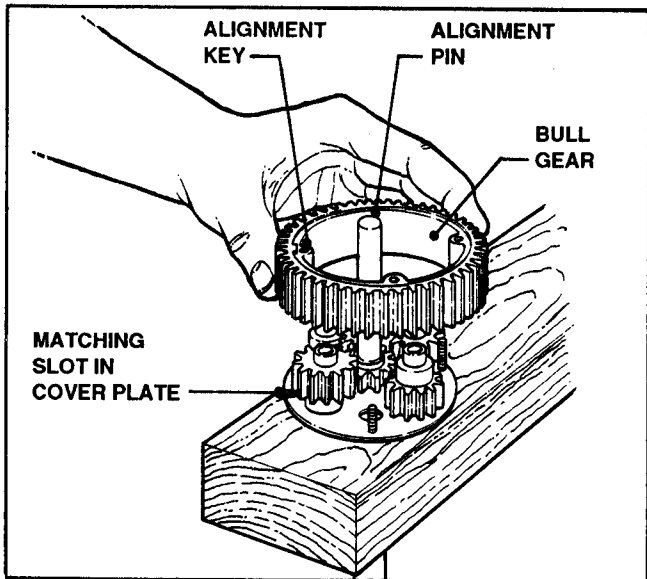

FIGURE 5.11
- Align raised portion of Bull Gear over matching slot in Cover Plate on the board. See Figure 5.11.